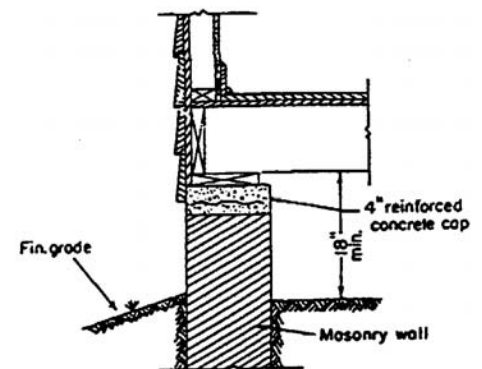

Figure 12. A reinforced poured concrete cap on masonry walls or pier.
- Capped with a minimum of 4 inches of reinforced poured concrete (Figure 12).